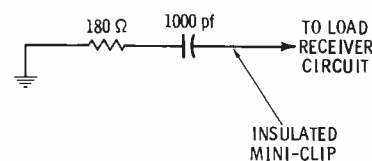

Fig. 6. Schematic of IF load.
shown in Fig. 6. Construction is simple and lead length is not really critical.
Step 2: This step involves checking to see if the defective overall response is being caused by a defect in the link circuitry. Leave all connections as for the previous step with sweep input to the mixer grid. However, connect the oscilloscope through a *detector probe* (shown in Fig. 3) to the plate of the first IF amplifier. Due to the loss of the IF gain it will be necessary to increase the output of the sweep generator. However, do not overload the circuit, and make sure IF and RF bias is applied. In some instances it may be necessary to lower the bias voltages. To view the link response it will be necessary to shunt the plate of the second IF amplifier with a load, to swamp the latter's response. An acceptable load, consisting of a 180-ohm resistor and a 1000-pf capacitor, is shown in Fig. 6.